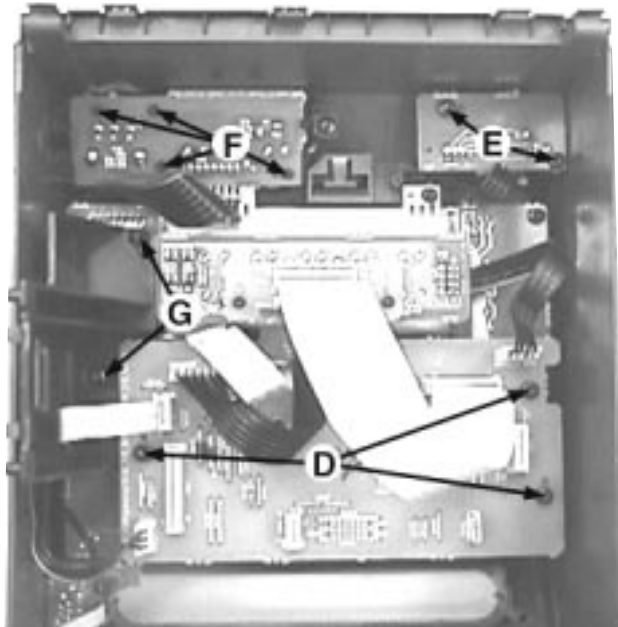

Figure 9
- 1) Loosen 3 screws D (see Figure 9) to remove the Control Board (pos 1107-B).
- 2) Loosen 2 screws E (see Figure 9) to remove the ECO Standby Board (pos 1107-D).
- 3) Loosen 4 screws F (see Figure 9) to remove the Volume Board (pos 1107-H).
- 4) Loosen 2 screws G (see Figure 9) to remove the Bracket Combi (pos 252).